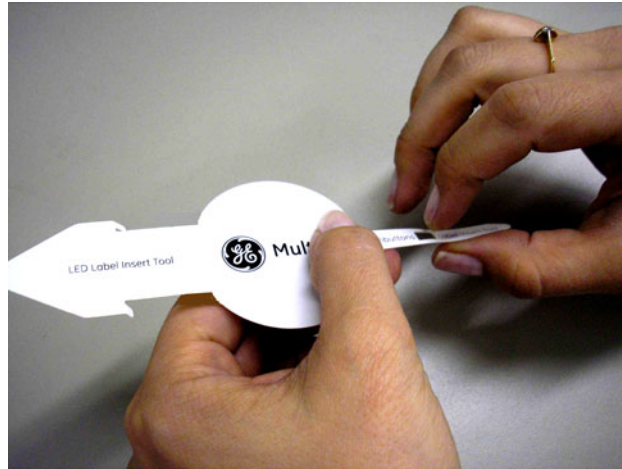

Figure 4-12: **LABEL TOOL** - BENDING THE TAB AT THE CENTRE OF THE TOOL TAIL
- Bend the tab at the centre of the tool tail, inward (toward you when looking at the printed side) - see figure 4-12 below.